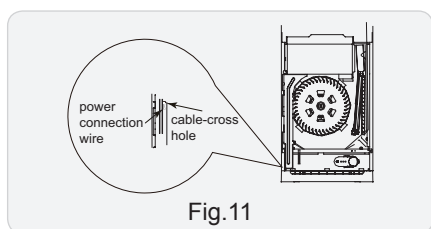

Fig.11
(1) Make the power connection wire go through the cablecross hole of indoor unit (As show in Fig.11)